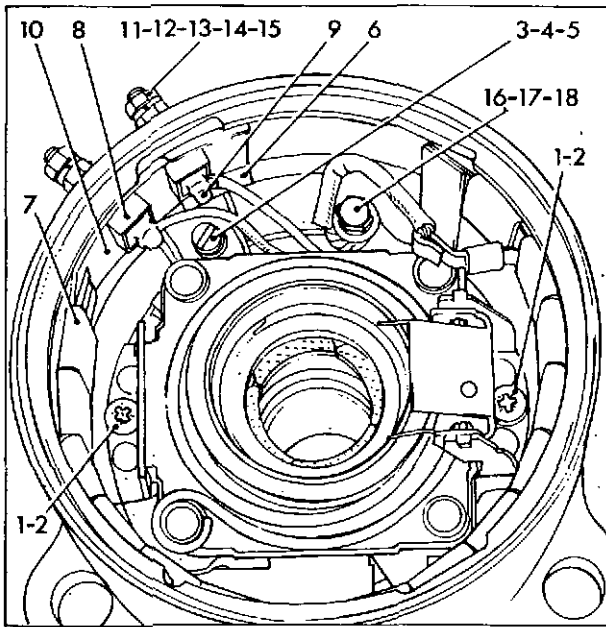

Fig. 19 Replacing solenoid switch unit
Smear the solenoid plunger return spring with Aero Shell 16 grease and place it in the drive end shield. Insert switch assembly into the shield with the 'fixed contact' connecting arm in line with the main terminal. Fit retaining screws (1) fig. 19 with spring washers (2) and tighten screw to a torque value of 18 to 20 lbf.in (2.03 to 2.26 Nm). Insert screw (3) together with washers (4) and (5) and tighten to torque value of 18 to 20 lbf.in (2.03 to 2.26 Nm). Fit leatheroid insulator (6) in resistor groove and assemble resistor (7) into position in the drive end shield.